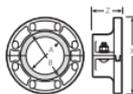

FIGURE 1
1. The gray area of the mating face (Figure 1) must be free from gouges, undulations, and deformities of any type for proper sealing. Heavy, serrated finishes are not acceptable.